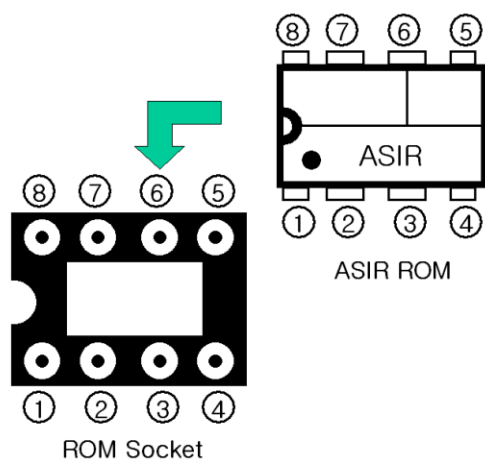

Figure 8-119 ASIR ROM mounting direction
- 5.) Mount ASIR ROM to new SYSCONML Assy. Refer to the Figure 8-119.